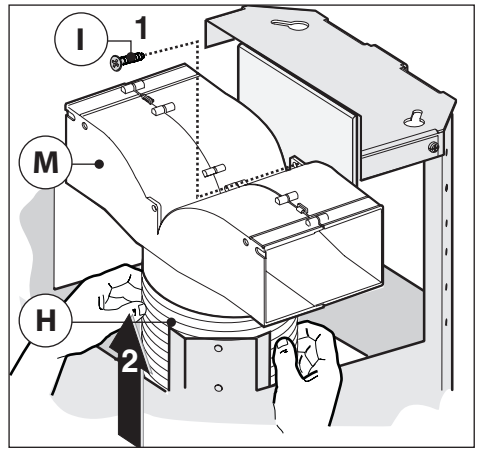

Fig.11
- Connect the flexible tube **H** to the deflector **M** and secure the screw **I** as indicated in (Fig.11).